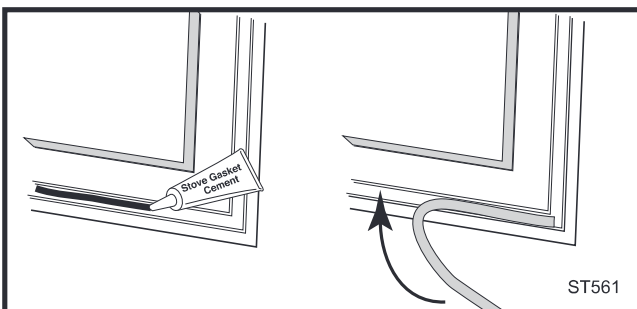

Fig. 44 Lay a bead of gasket cement then press new gasket in place.
5. Lay an unbroken 1/8" (3 mm) bead of gasket cement in the newly-cleaned channel. Starting at one end, press the gasket into the channel. Ensure a good joint where the gasket meets before trimming any excess. Do not overlap the gasket ends or leave ends with ragged edges. (Fig. 44)